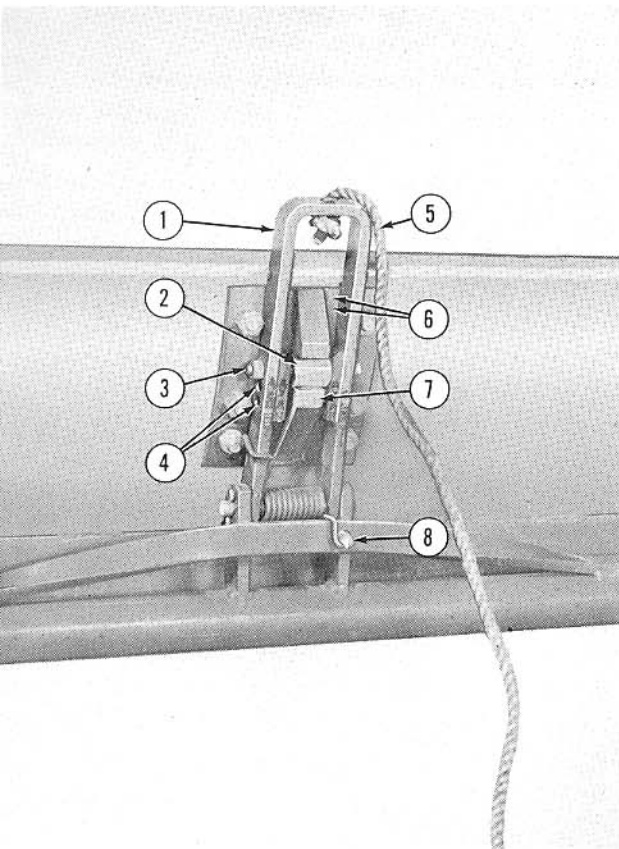
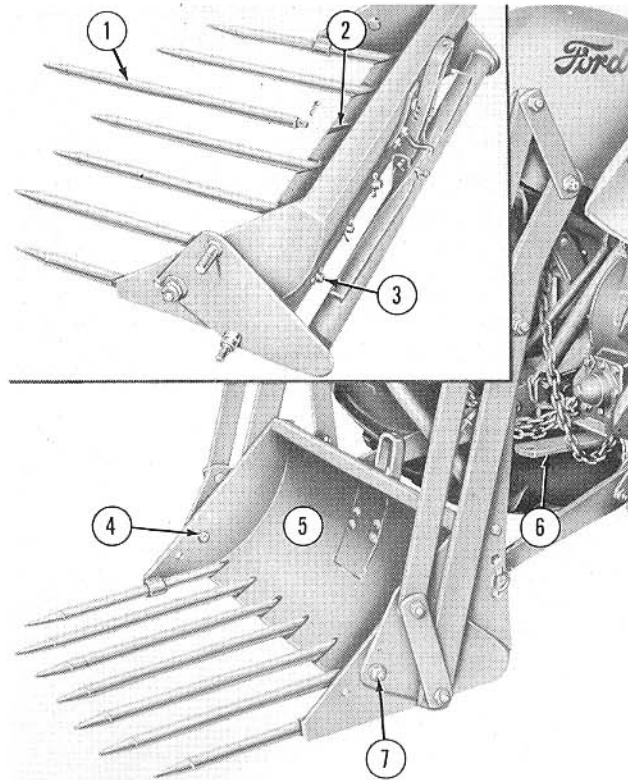

Figure 8
Figure 9
- Position the bucket fork assembly (5), Figure 9, in the cradle assembly so the bucket latch yoke (7), Figure 8, is held by the latch yoke roller (2).
- Place the $\frac{5}{8}$ " x $2\frac{1}{4}$ " bolts (4) and (7), Figure 9, through the upper hole in each side of the bucket (5) and through the bearings in each side of the cradle assembly as shown. Secure each bolt with a flat washer, nut and jam nut.
- Insert the seven tines (1), Figure 9, through the ports (2) in the bucket and secure each tine at the rear of the bucket with the $\frac{1}{4}$ " cotter pins as shown at (3).
- Insert the trip rope (5), Figure 8, through the hole in the top of the latch yoke (1) and tie a knot in the end so the rope will not pull loose from the latch. Tie the free end of the trip rope to the tractor within easy reach of the operator.
Pitch: The angle of the tines in the fork can be adjusted by changing the position of the latch roller (2), Figure 8. To decrease the angle of the fork, remove the bolt (3) and reattach the roller in one of the two lower holes (4), Figure 8, provided. Adjust the set screw (8) so that the latch assembly (1) touches the bucket latch plate at the points (6). Secure the set screw (8) with the hex jam nut provided.
tractor with the loader attached, to pull a wagon or manure spreader to the field, raise the loader high enough to give clearance for attaching the tongue to the extended hitch (6), Figure 9.